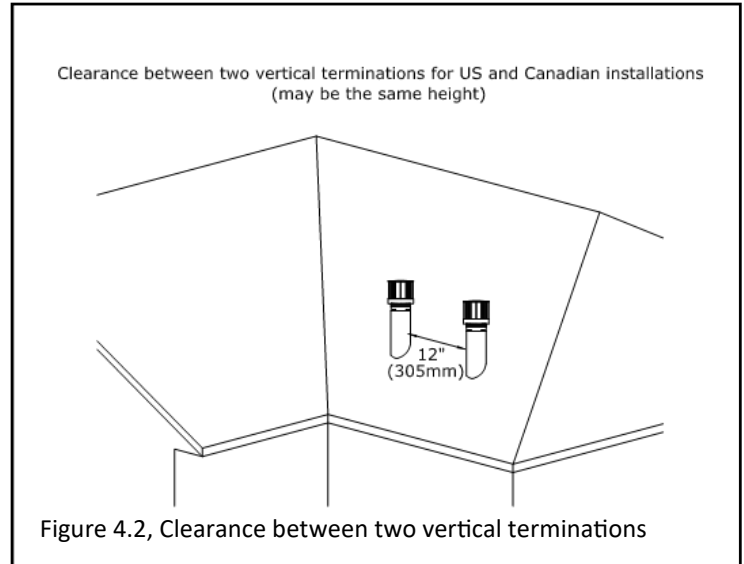
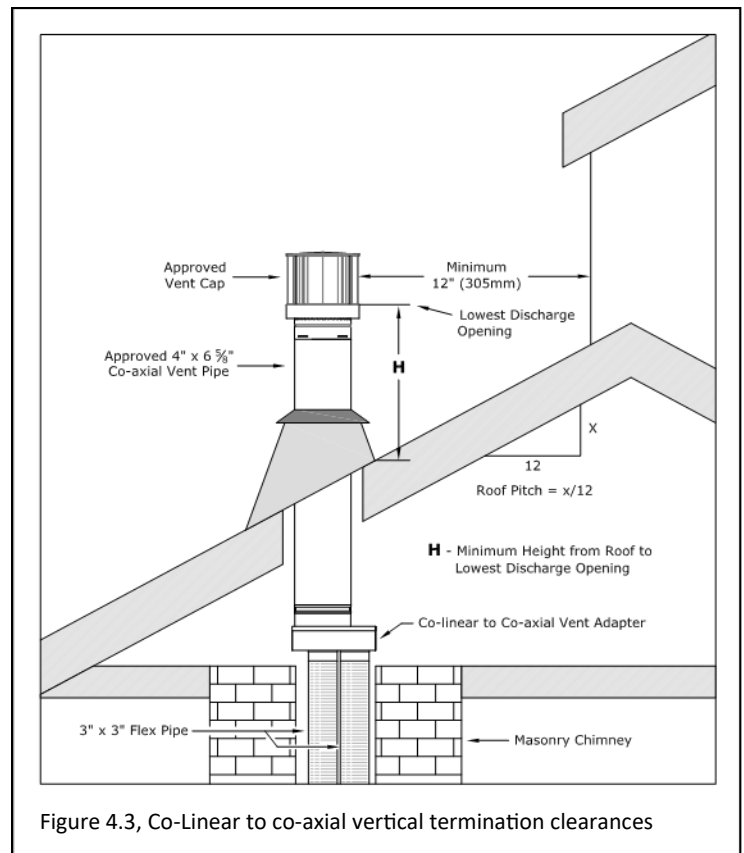

Figure 4.2, Clearance between two vertical terminations
Figure 4.3, Co-Linear to co-axial vertical termination clearances
Table 4.1, Minimum Vertical Termination Height (use with Figure 4.3)
- When combining co-linear and co-axial venting in a single venting system using an approved 4" x 6-5/8" adapter, use Figure 4.2, Figure 4.3, and Table 4.1 for proper termination clearances.